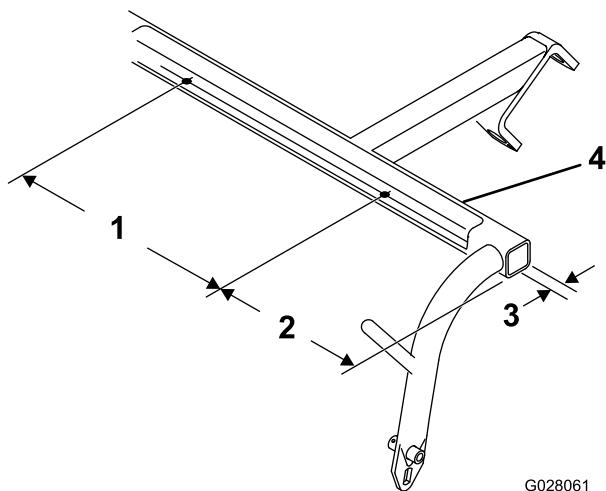

Figure 2
1. Using the dimensions shown in Figure 2, drill 2 holes with a diameter of 5.6 mm (0.221 inch) on the underside of each pull-arm cross tube.